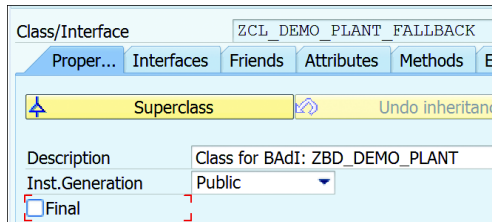

Figure 20.50 Allowing Inheritance
3. When using the fallback class as an example class, you may want to allow the fallback class to be inherited by other classes for ease of implementation. In such a case, make sure to uncheck the FINAL class flag, as shown in Figure 20.50.